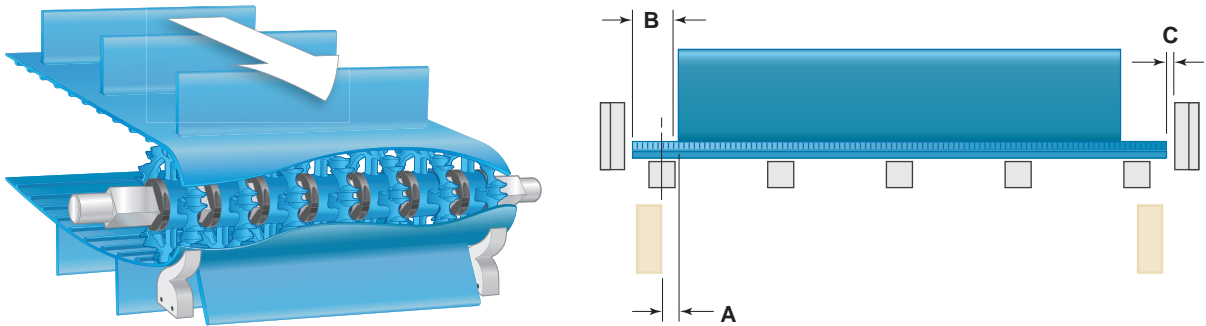

Figure 15
- Align a limiter with each outermost drive sprocket (Figure 15).
- Ensure a 0.125 in (3 mm) clearance between the belt edge and containment components (Figure 15, C).
- Ensure a 0.25 in (6 mm) clearance between flight or sidewall edges and limiter edges (Figure 15, A).
- ◇ For flighted or sidewall belts, align roller limiters with the outermost sprockets. Align a sprocket and limiter at the flight notch, if any. Ensure a clearance of 0.25 in (6 mm) between roller limiters and flight or sidewall edges (Figure 15, A).